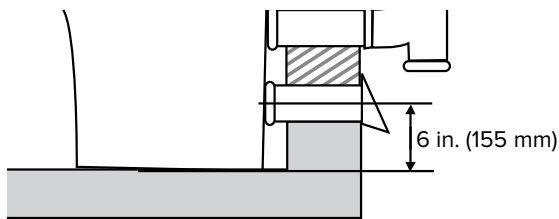

fig. 10
3. Install the supplied short vent pipes with the conical/beveled end towards the toilet; see fig. 10 and 11. Make a mark about $1\frac{1}{16}$ in. (40 mm) from the end of the pipe so you know how far to push the pipe into the toilet.